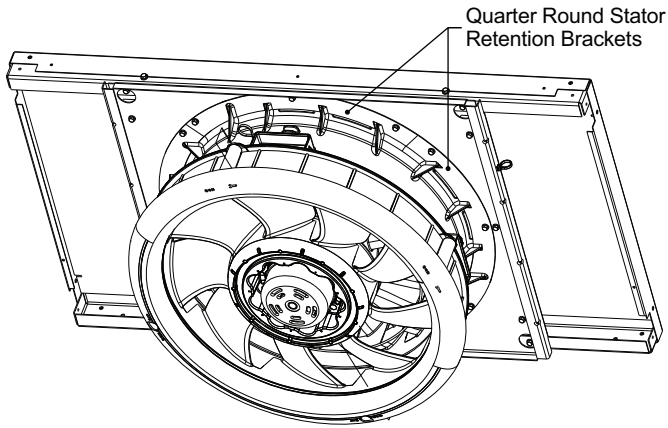

Fig. 26 — Quarter Round Stator Retention Brackets
3. Remove three screws from each of the quarter round stator retention brackets. See Fig. 26.